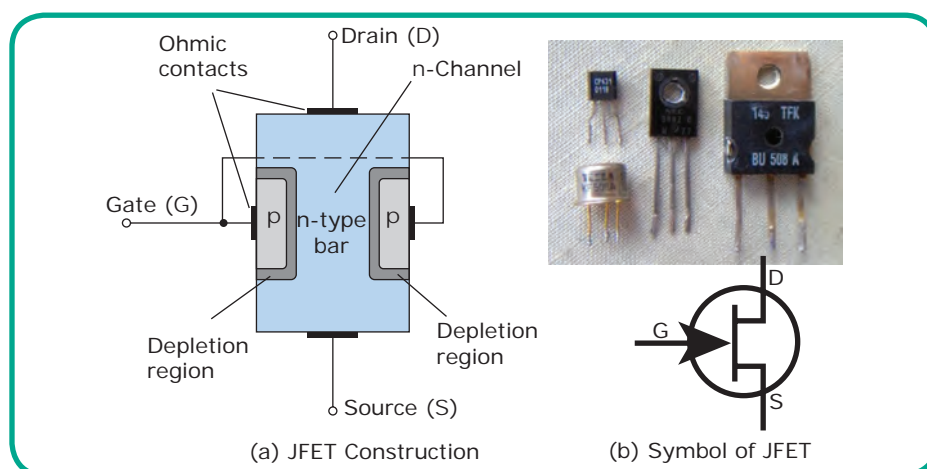

Figure 6.9 Construction of N-Channel JFET and its Symbol
**Construction:** Figure 6.9 shows the construction of n-channel JFET and its symbol. It consists of a uniformly doped N-type semiconductor bar made of silicon. On both sides of this N-type semiconductor bar, two heavily doped P-type regions are formed by diffusion. The two P-regions are internally connected and a single lead is taken out, which is called Gate (G). Ohmic contacts are made at the two N-type semiconductor bar. One lead is called as Source (S) and the other as Drain (D). These two terminals may be interchanged. The source (S) is a terminal through which the majority carriers (electrons in the N type bar) enter the bar. The drain (D) is a terminal through which the majority carriers leave the bar.
Since the two P-regions are heavily doped and N-type bar is lightly doped, two depletion layers are formed in the N-type bar as shown in Figure 6.9. The region between the two layers is called channel. The majority carriers move from